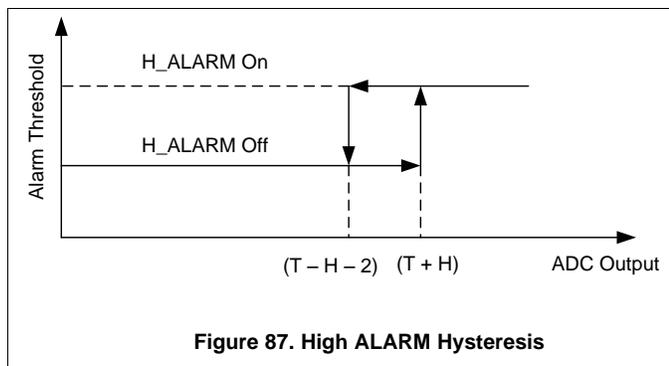

Figure 87. High ALARM Hysteresis
The device sets the input high alarm when the digital output exceeds the high alarm upper limit [high alarm threshold (T) + hysteresis (H)]. The alarm resets when the digital output is less than or equal to the high alarm lower limit (high alarm T – H – 2). This function is shown in Figure 87.